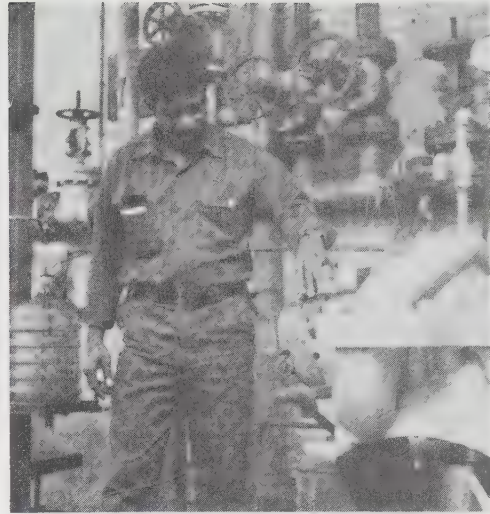

Figure 11-4. Feedwater pumps are checked for leakage, unusual noises, and overheating.
12. Periodically inspect the feedwater pump, fuel oil pump, and draft fans. See Figure 11-4. This aids in reducing maintenance costs and downtime. Minor problems that are corrected immediately can prevent larger problems from developing.